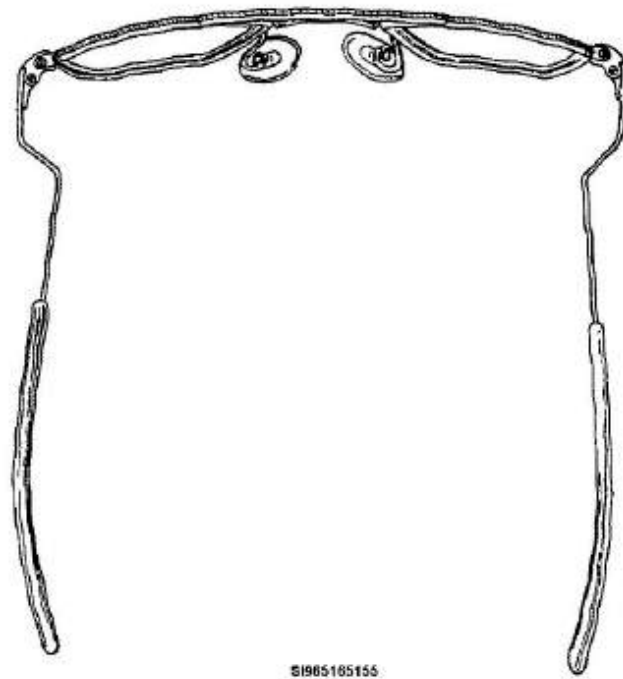

Figure 3-72. AFF modified for use in the full-pressure-suit helmet.
1. At approximately  $\frac{1}{2}$  inch from the butt of each temple, make a bend inward at an angle of about a  $45^\circ$  (fig 3-72).
2. At approximately  $\frac{1}{2}$  inch from the first bend, make a bend outward at an angle of about a  $45^\circ$  (fig 3-72).